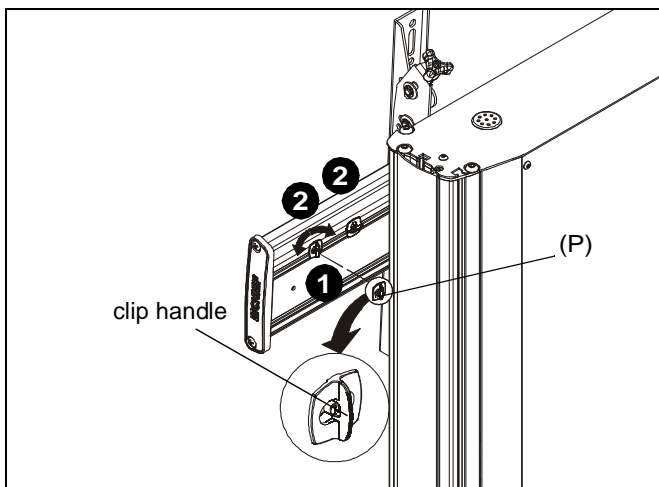

Figure 17
1. Place FCA clip (P) into groove on back of Fusion mount with clip handle in a vertical position. (See Figure 17)
2. Rotate FCA clip (P) 90° in either direction until clip handle is in a horizontal position. (See Figure 17)